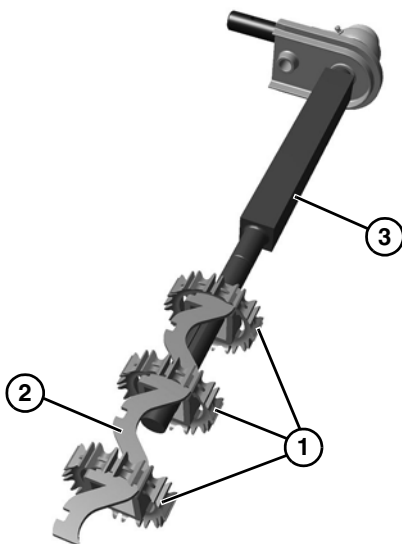

Figure 62
1. Assemble sprockets (**Figure 62, item 1**) to the slots of alignment bar (**Figure 62, item 2**), and install assembly onto drive spindle (**Figure 62, item 3**).